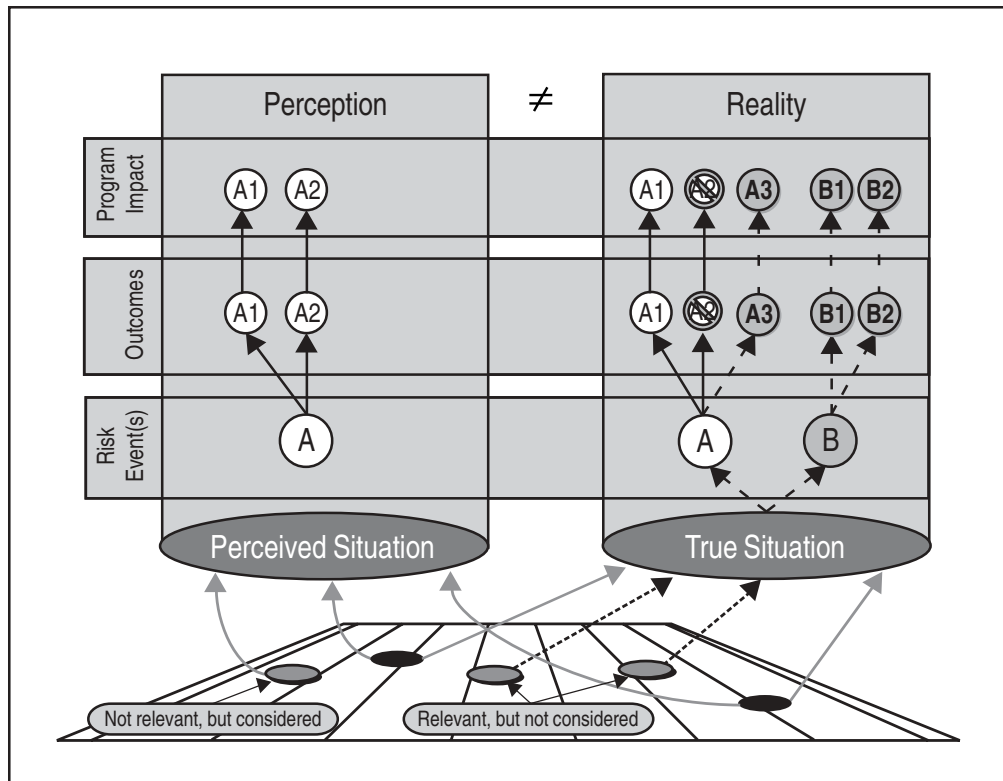

Figure 10. Perception Is Not Reality
from assumptions. Assumptions — which may not be true — are usually a good place to start zeroing in on risks. There is significant partial credit for structuring the problem correctly because this provides the framework for all remaining risk management activities. This is a case where perception is absolutely NOT reality. As illustrated in Figure 10, by including irrelevant information or failing to consider relevant information, the team may mitigate outcomes and impacts that do not really exist and fail to mitigate those that do (A). In severe cases, a team may completely fail to identify the true risk (B).